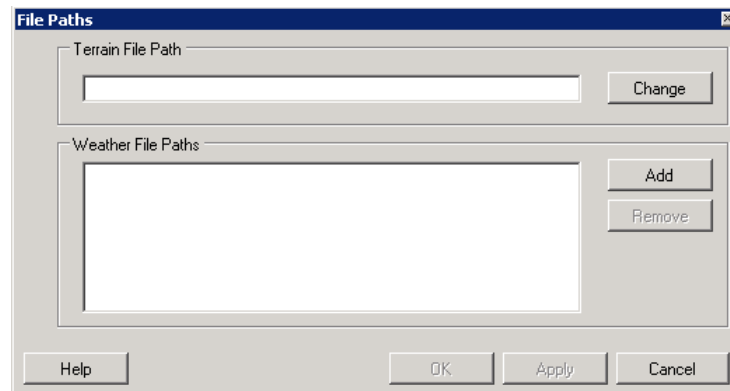

Figure 5-5 File Paths Dialog Box
2. In the *File Paths* dialog box (Figure 5-5) click the *Change* button next to *Terrain File Path* in the top portion of the dialog box.
- a. In the *File Paths* dialog box (Figure 5-5) click the *Add* button next to *Weather File Paths*.
- a. In the *File Paths* dialog box (Figure 5-5) click the weather file path of interest.